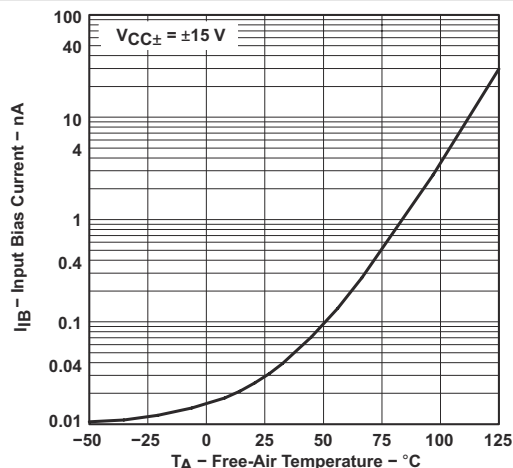

FIG 6-12. Input Bias Current vs Free-Air Temperature
- (1) All characteristics are measured under open-loop conditions with zero common-mode input voltage unless otherwise specified. Full range for  $T_A$  is  $0^\circ\text{C}$  to  $70^\circ\text{C}$  for TL06xC, TL06xAC, and TL06xBC and  $-40^\circ\text{C}$  to  $85^\circ\text{C}$  for TL06xI.
- (2) Input bias currents of an FET-input operational amplifier are normal junction reverse currents, which are temperature sensitive, as shown in Figure 6-12. Pulse techniques are used to maintain the junction temperature as close to the ambient temperature as possible.
- (3) Specified by design and characterization; not production tested.
- (1) All characteristics are measured under open-loop conditions with zero common-mode input voltage, unless otherwise specified. Full range for  $T_A$  is  $0^\circ\text{C}$  to  $70^\circ\text{C}$  for TL06xC, TL06xAC, and TL06xBC and  $-40^\circ\text{C}$  to  $85^\circ\text{C}$  for TL06xI.
- (3) Assured by design and characterization; not production tested.
(1) This parameter is not production tested.
(2) All characteristics are measured under open-loop conditions, with zero common-mode voltage, unless otherwise specified.
(3) Input bias currents of an FET-input operational amplifier are normal junction reverse currents, which are temperature sensitive, as shown in Figure 6-12. Pulse techniques are used to maintain the junction temperature as close to the ambient temperature as possible.
(4) Specified by design and characterization; not production tested.